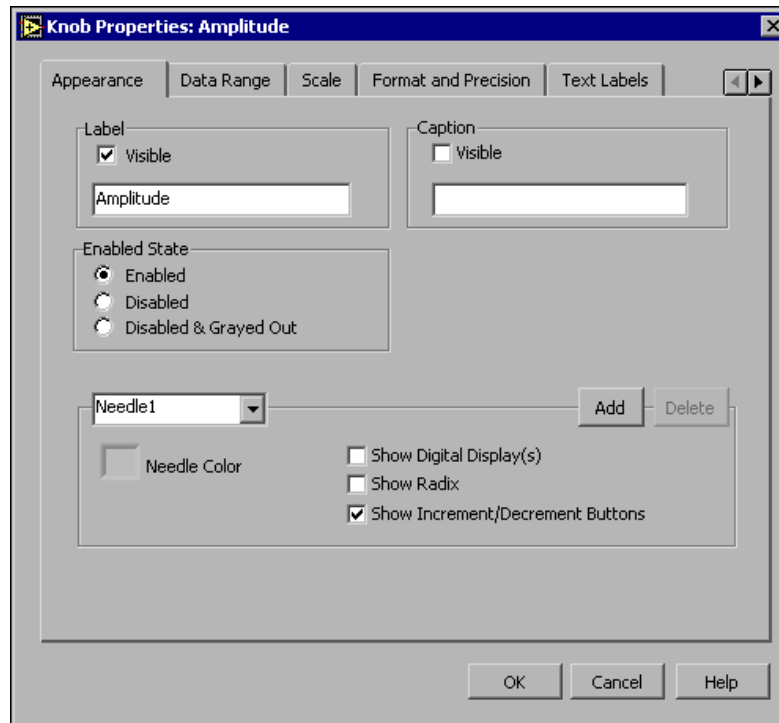

Figure 1.24
2. In the **Label** section on the **Appearance** tab, delete the label **Knob**, and type **Amplitude** in the text box. The **Knob Properties** dialog box should appear similar to Figure 1.24.